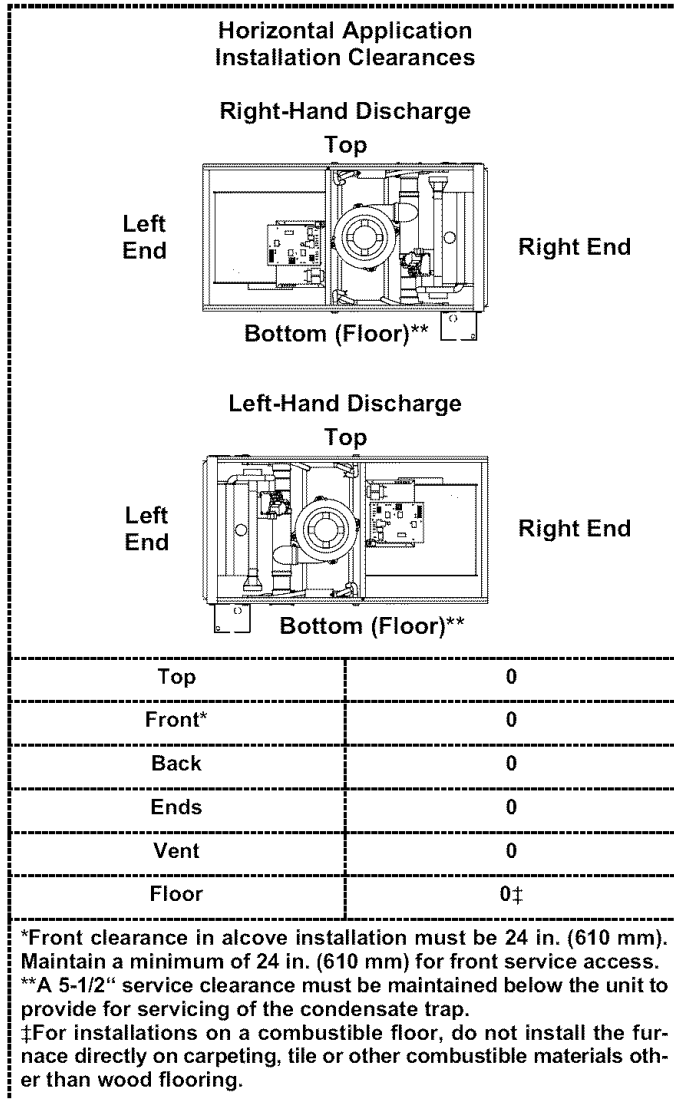

FIGURE 16
Refer to figure 16 for clearances in horizontal applications.
- 1 - Select location for unit keeping in mind service and other necessary clearances. See figure 16.
- 1 - Select location for unit keeping in mind service and other clearances. See figure 16.